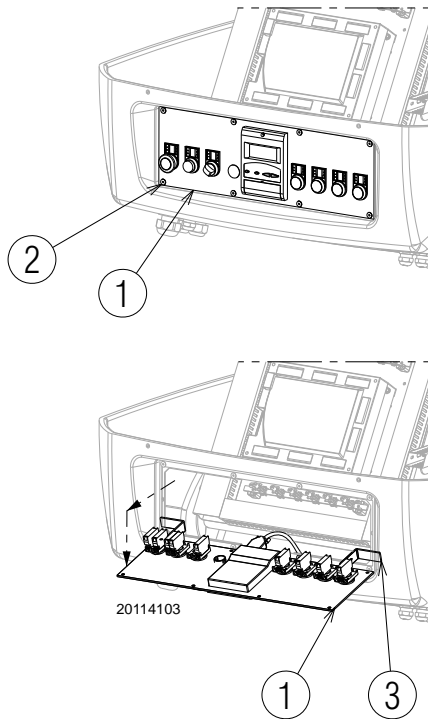

Fig. 47
- extract the control panel 1) and turn it 90°, hooking it with the brackets 3) in the profile of the electrical panel as shown in Fig. 47;